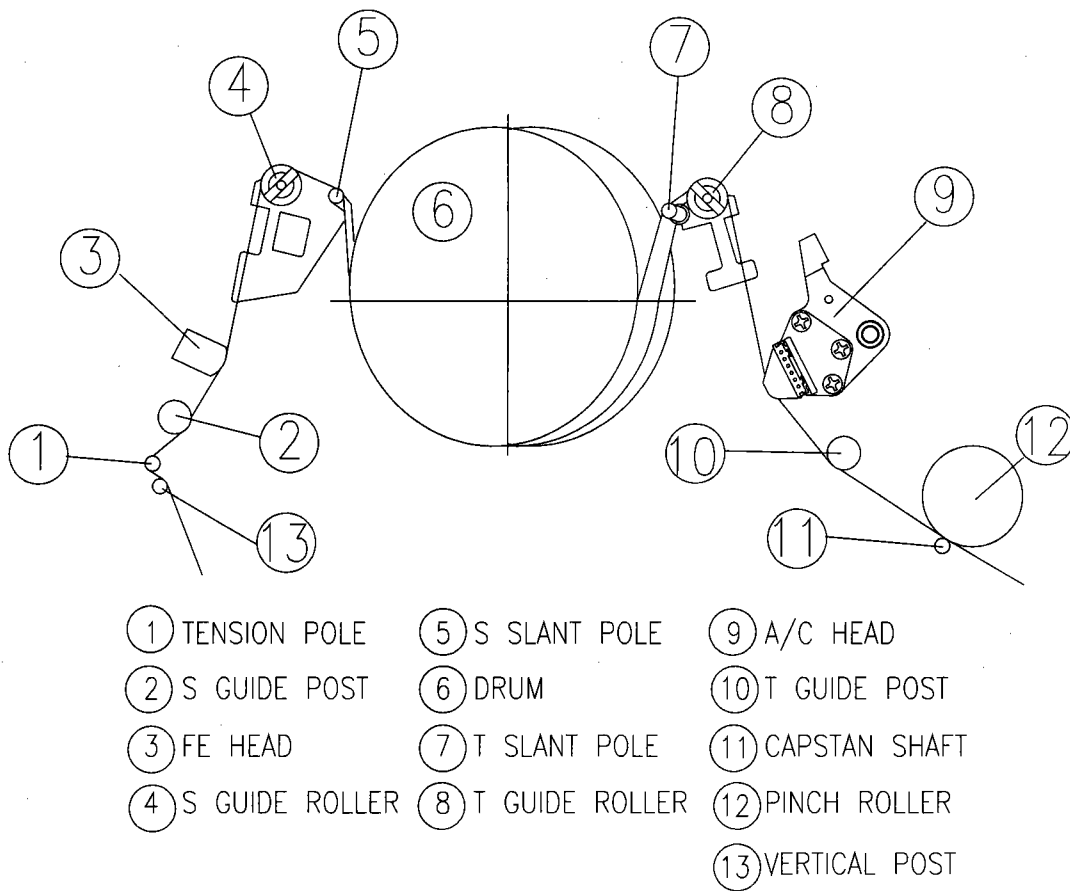

Fig. 5-1 THE SCHEMATIC DIAGRAM OF TAPE TRANSPORTING SYSTEM
When the parts as shown in Fig. 5-1 are replaced, the TAPE TRANSPORTING SYSTEM has changed. To prevent this, it is essential to know thoroughly and observe the following INSTRUCTIONS.
- Play back a T-120 Tape and check the running condition of the TAPE at the lower flanges of the T GUIDE POST ASS'Y ① in Fig. 5-1.